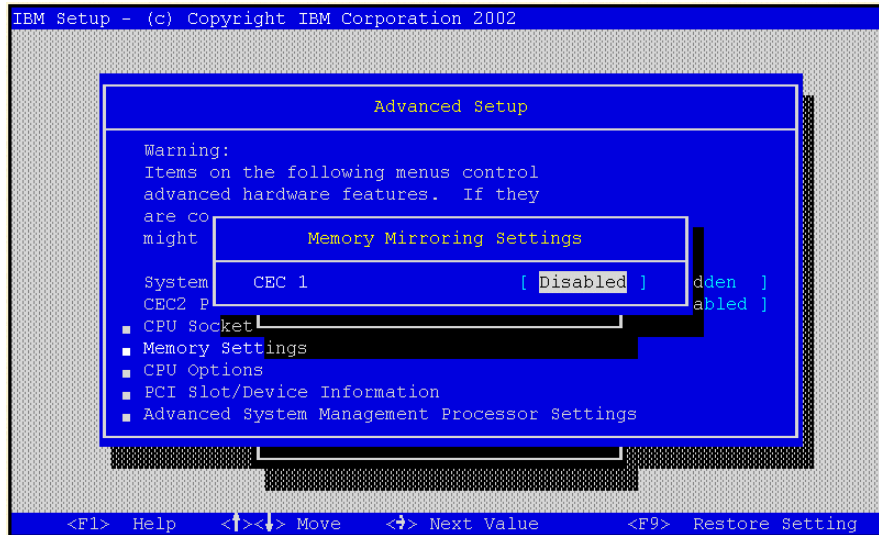

Figure 4-1 Enabling memory mirroring
2. From the main menu select **Advanced Setup -> Memory Settings -> Memory Mirroring Settings**. Figure 4-1 on page 109 appears.